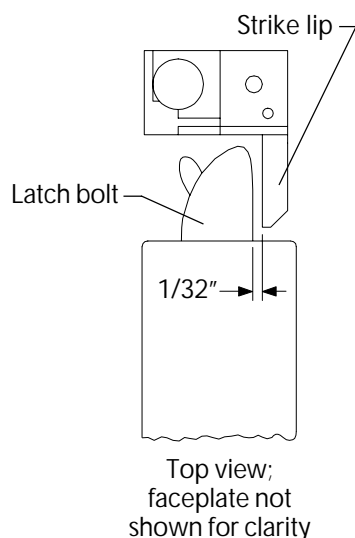
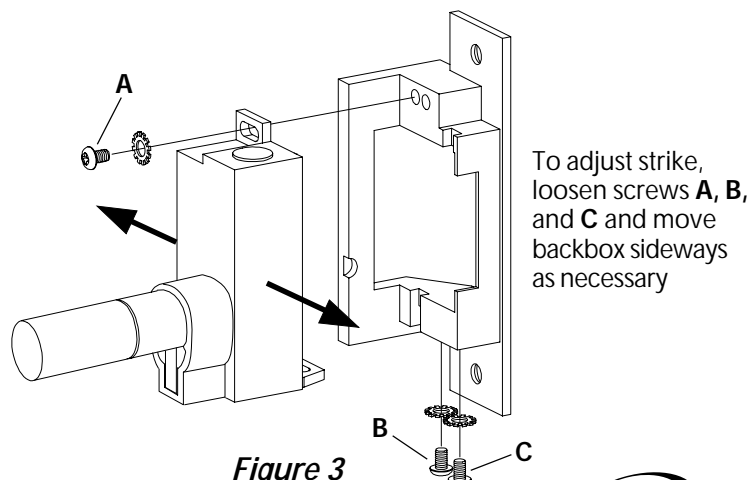

Figure 2
Figure 3
5. Install strike with two #12-24 screws. Make sure clearance between latch bolt and strike lip is 1/32" (Figure 2). If not, uninstall strike, adjust (Figure 3), and reinstall.